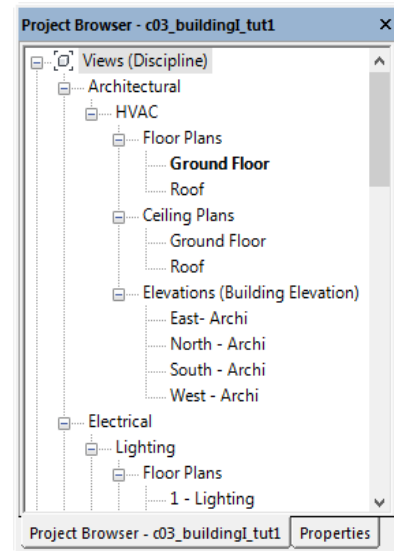

Figure 3-57 The **Properties** Palette displaying the other views under **Elevations** sub-head
- Modify Top Constraint- **Up to Level: Level 2** and Location Line - **Wall Centerline** as wall properties using the **Properties** Palette, refer to Figure 3-57.
7. Repeat the procedure followed in steps 3 through 6 to add another level as **Level 2** from **Mechanical** head into **Architectural** head, as shown in Figure 3-57.
12. Repeat the procedure followed in steps 7 through 10 to add other views under the **Elevations** sub-head, refer to Figure 3-57.